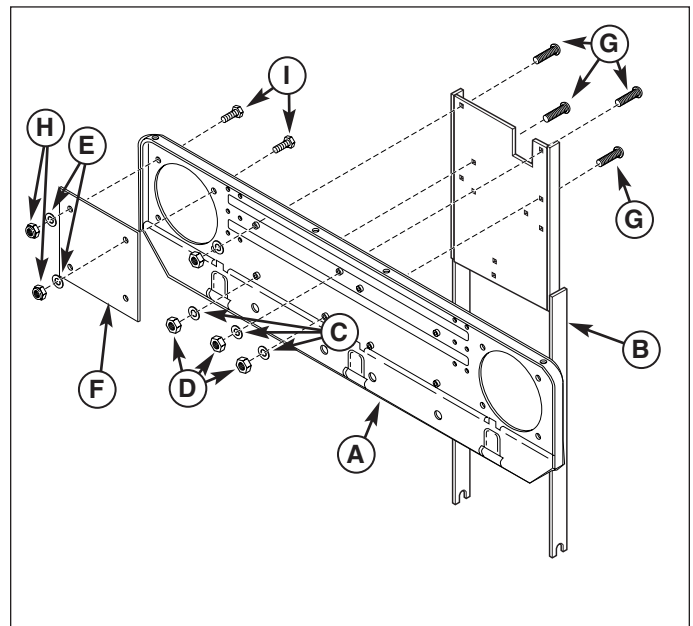
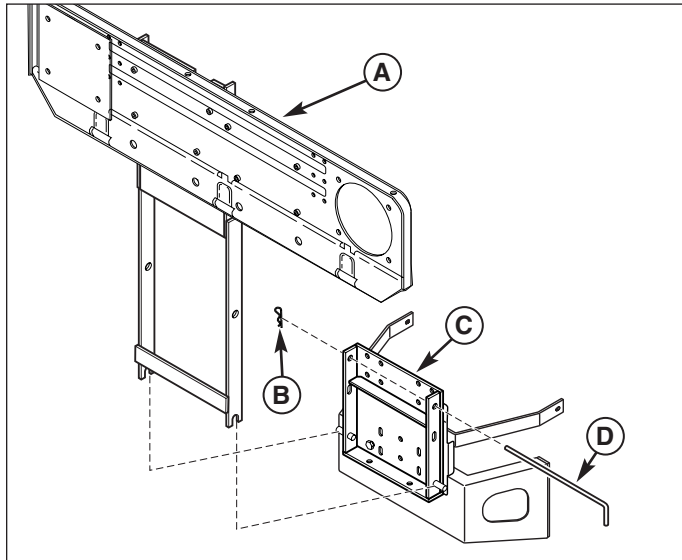

Figure 3. Install Hitch Assembly
Figure 4. Install Back Plate (Flat Style Bumper shown)
1. Install the cover plate (F, Figure 3) on the back plate (A). Secure with four 5/16-18 x 3/4 cap screws (I), washers (E) and 5/16-18 locknuts (H).
2. Attach the back plate (A) to the support assembly (B) using 5/16-18 x 1 carriage bolts (G), 5/16 lockwashers (C) and 5/16 nuts (D).
3. Set the back plate and support (A, Figure 4) onto pins of hitch plate (C). Secure with rod (D) and hair pin (B).